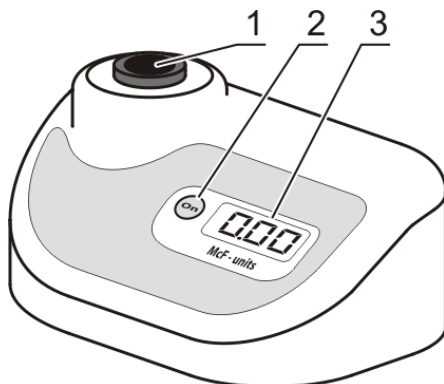

Figure 2. Front view
- Check if the A-16 adapter is in the socket (fig. 2/1). The device is calibrated for operation with the glass tubes 16 mm in external diameter. To use different tubes, recalibrate the unit, see the **Calibration** section of the manual.
5.3. The following indication may be shown on the display (fig. 2/2):
**Note.** The display of **DEN-1B** switches off if the socket is empty for longer than one minute. Press the **On** key (fig. 2/2) to activate the unit.
5.6. Insert the tube into the socket of densitometer (fig. 2/1). The McFarland value for the solution will be shown on the display (fig. 2/3).
- 6.6.2. **Transparent standard.** Display shows 0.00 indication. Insert standard for **0.00** value into the socket (fig. 2/1) of the unit. If the standard for 0.00 value is not available, fill the tube (of the kind that is used for operations) with distilled water. Use the tube as the **0.00** value standard. Press **Install** button to save transparent standard value. Display shows next required calibration value.
- 6.7. **Common calibration rules.** Display shows indication of necessary calibration value. Insert the necessary standard into the socket (fig. 2/1) of the unit and press the **Install** button to save the value for current standard.